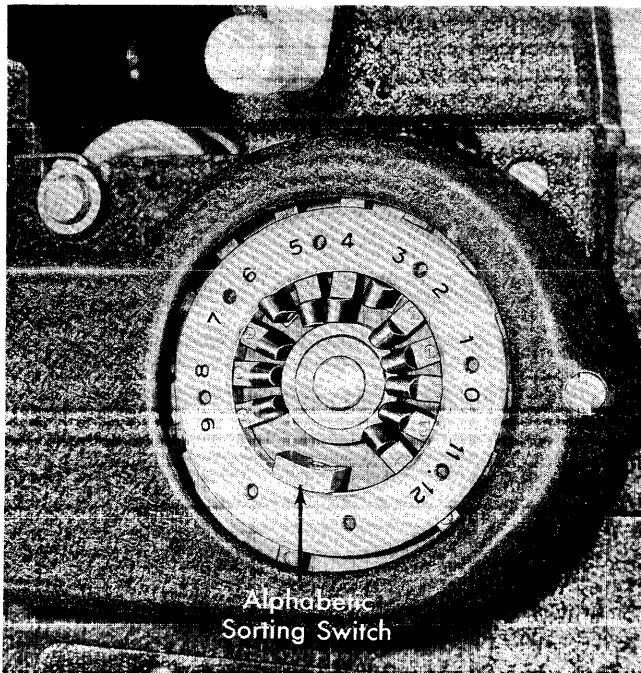

FIGURE 29. SELECTOR SWITCHES
In alphabetic sorting, the cards are sorted first in the normal manner, grouping them by the digits 1 to 9, after which the large red alphabetic sorting switch (Figure 29) is moved toward the center, and the cards are again sorted on the same column. The alphabetic sorting switch when thus moved cuts out the normal circuits 1 through 9, and, consequently, in the second run, all cards will fall in the 12, 11 or 0 pocket. The 12 pocket will contain cards punched with the letters A through I; the 11 pocket those with J through R; and the 0 pocket those with S through Z, all in alphabetic sequence.
5. *Single Column Selection.* It is sometimes desirable to select cards punched with a certain digit from a file of cards without disturbing the original sequence. This may be accomplished by the use of the commutator, which is located just below, and to the left of, the feed hopper. This commutator (Figure 29), or selection device, is equipped with twelve small black switches, one for each pocket of the machine, not including the reject pocket.